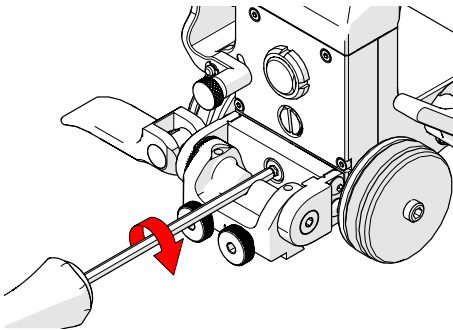

Fig. 35 - Screw to scanner body
3. Using the supplied 3 mm hex driver, screw the rear pivot to the cart (Fig. 35).